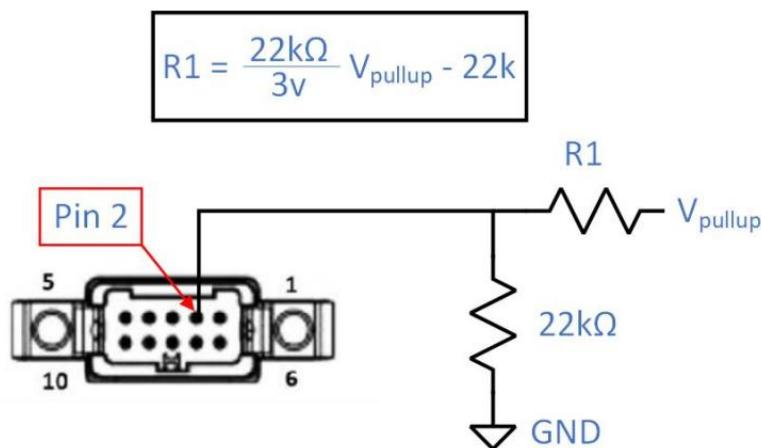

Figure 4.2. Resistive Divider
5. For the KERNEL-108/110/120/201/210/220, the BOOT pin has an internal 10K pull-down resistor for supply return. As such, the device enters firmware update mode when this pin is held high once powered. If the voltage supply is >3.3V, use a resistive divider shown in Figure 4.2. Leave this pin floating when not in use.